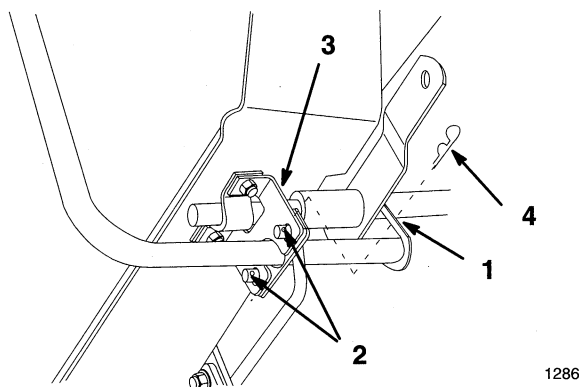

Figure 19
4. Remove hairpin cotters and unhook rod of crank handle support from cross shaft (Fig. 19).